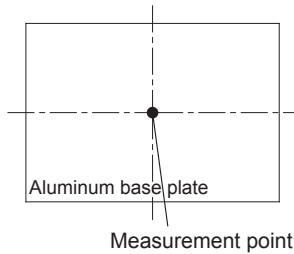
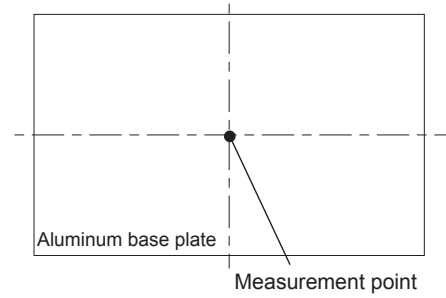

Fig.8.2.9 Measurement point (CHS120 option "B")
Fig.8.2.11 Measurement point (CHS400/CHS500 option "B")
■ For option "B" which is used with the convection cooling, forced air cooling or conduction cooling, use the temperature measurement location as shown in Fig.8.2.9 to Fig.8.2.11.